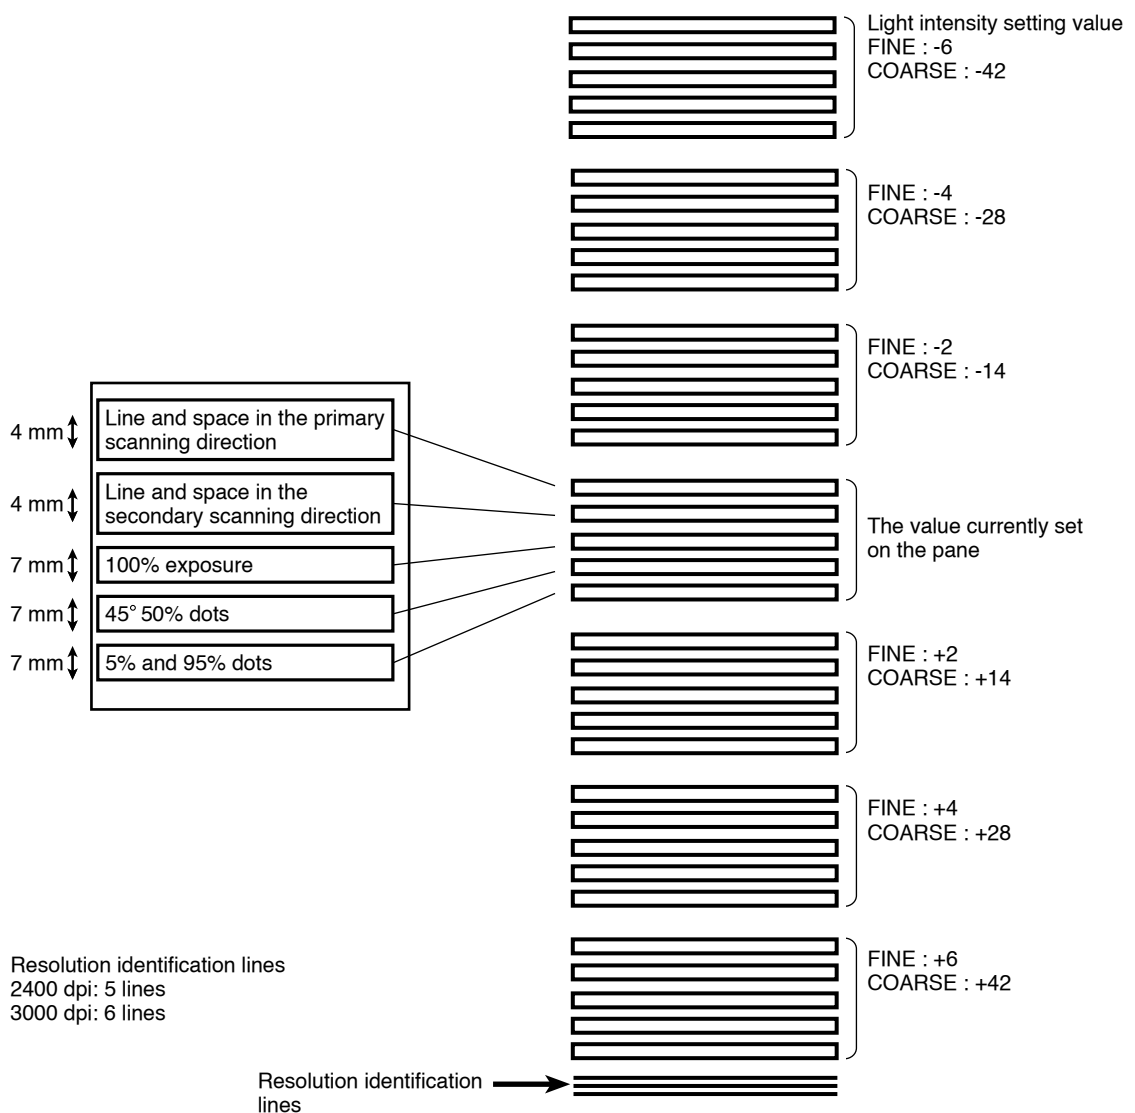

Fig. 5-1 Line and space exposure pattern in the primary scanning direction
- 6) Press the **ENT.** key so that the test exposure starts. (Refer to Fig. 5-1 to 5-3 for more information.)